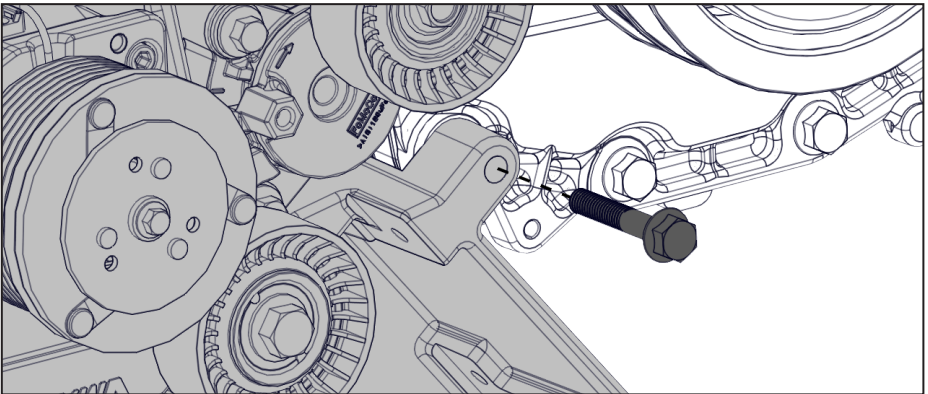

Figure 22 — Installing the main bracket
- Install one of the short OEM power steering pump fasteners, retained earlier, in the front bottom bolt location on the VMAC bracket (Figure 22).